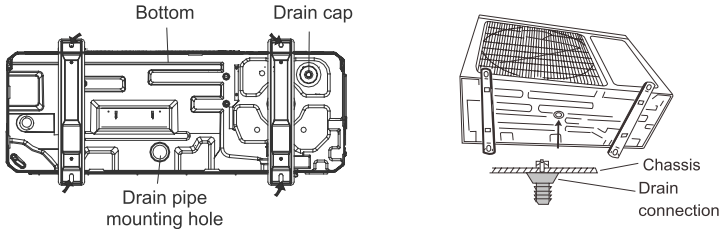

Fig.11
4.2.2 Condensate Drainage of the Outdoor Unit(Only for the heat pump unit) (Fig.11)